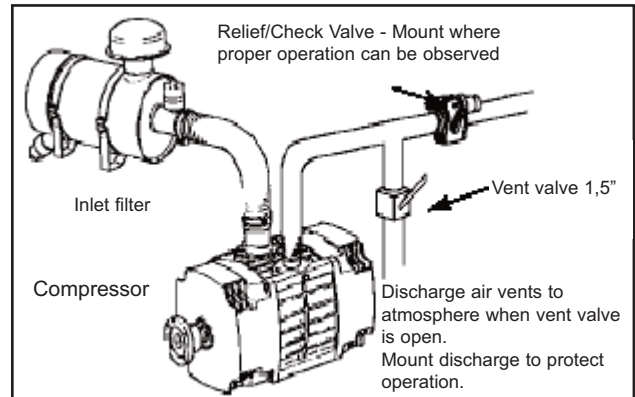

Figure 8 - Typical compressor installation
- The compressor MUST have an adequately sized pressure relief valve installed approximately 30 inches after the compressor discharge ; See figure 8.